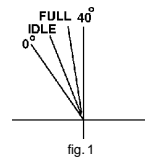

fig. 1
2. Adjusting Lever Angle (fig. 1)